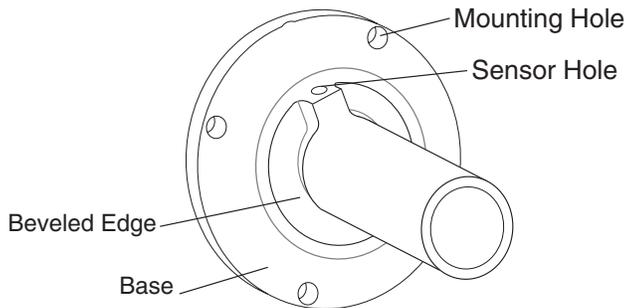

Figure 1. Candlestick
3. It is recommended that the sensor be mounted on the candlestick's beveled edge as close to the base (see Figure 1) as possible. Mount the sensor between the spring tab and mounting hole. The sensor you will be installing measures $\frac{5}{16}$ " in diameter.